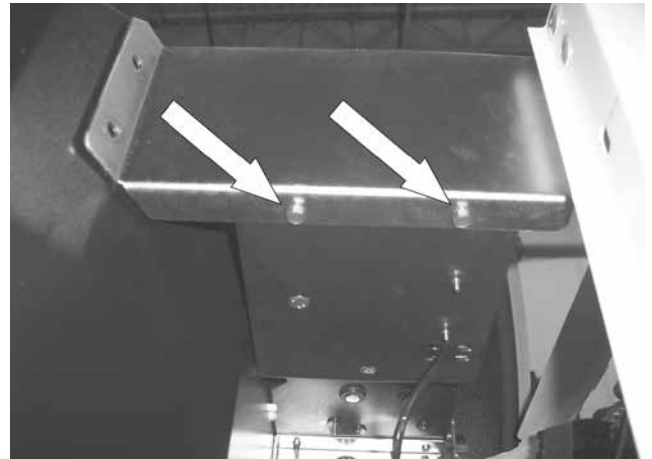

Figure 232.
4. **Remove control harnesses:** Disconnect all connectors and remove the controller. See Figure 232.